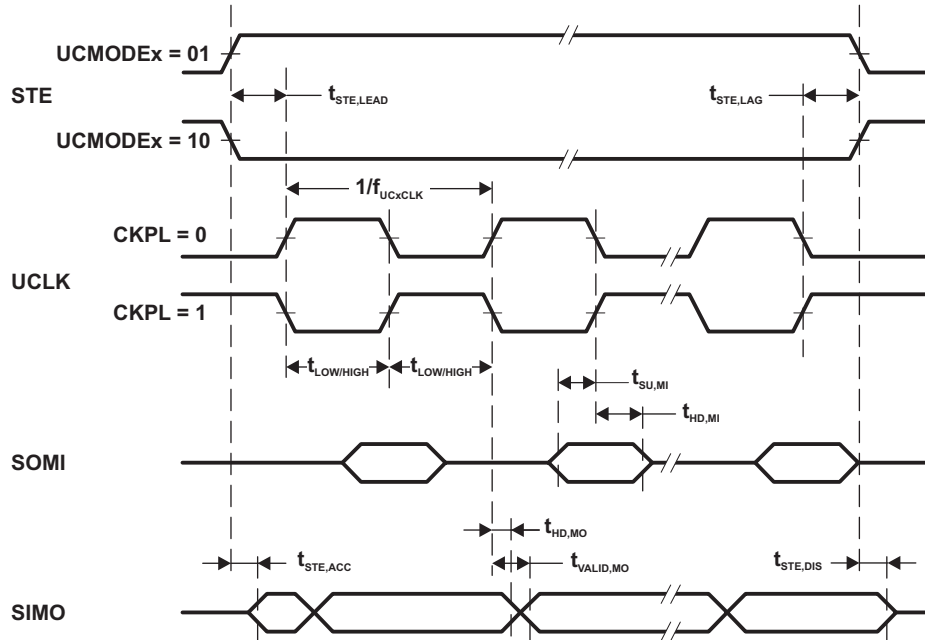
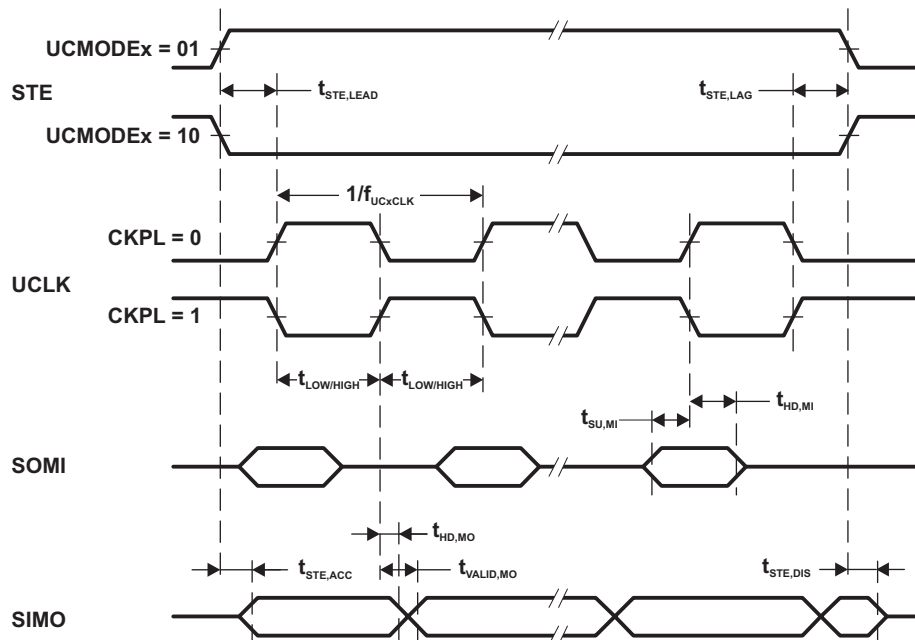

Figure 5-15. SPI Master Mode, CKPH = 0
Figure 5-16. SPI Master Mode, CKPH = 1
- (1)  $f_{UCxCLK} = 1/2t_{LO/HI}$  with  $t_{LO/HI} = \max(t_{VALID,MO(eUSCI)} + t_{SU,SI(Slave)}, t_{SU,MI(eUSCI)} + t_{VALID,SO(Slave)})$ . For the slave parameters  $t_{SU,SI(Slave)}$  and  $t_{VALID,SO(Slave)}$ , refer to the SPI parameters of the attached slave.
- (2) Specifies the time to drive the next valid data to the SIMO output after the output changing UCLK clock edge. Refer to the timing diagrams in Figure 5-15 and Figure 5-16.
- (3) Specifies how long data on the SIMO output is valid after the output changing UCLK clock edge. Negative values indicate that the data on the SIMO output can become invalid before the output changing clock edge observed on UCLK. Refer to the timing diagrams in Figure 5-15 and Figure 5-16.